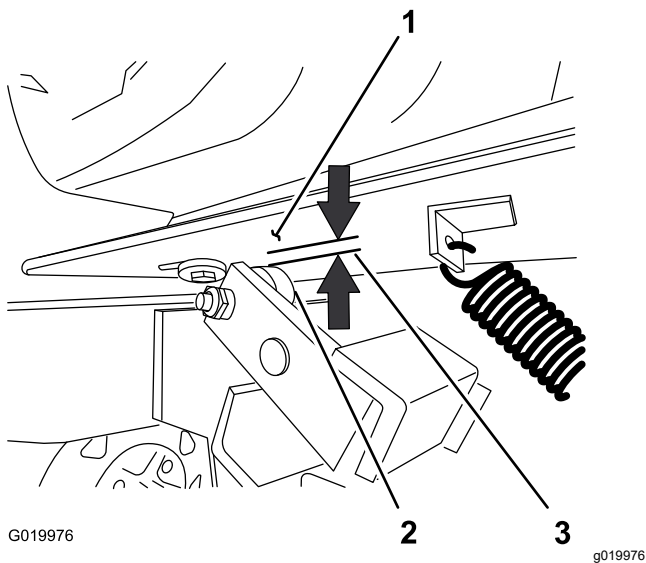

Figure 61
5. Measure the air gap between the engine deck and the roller on the clutch (Figure 61).